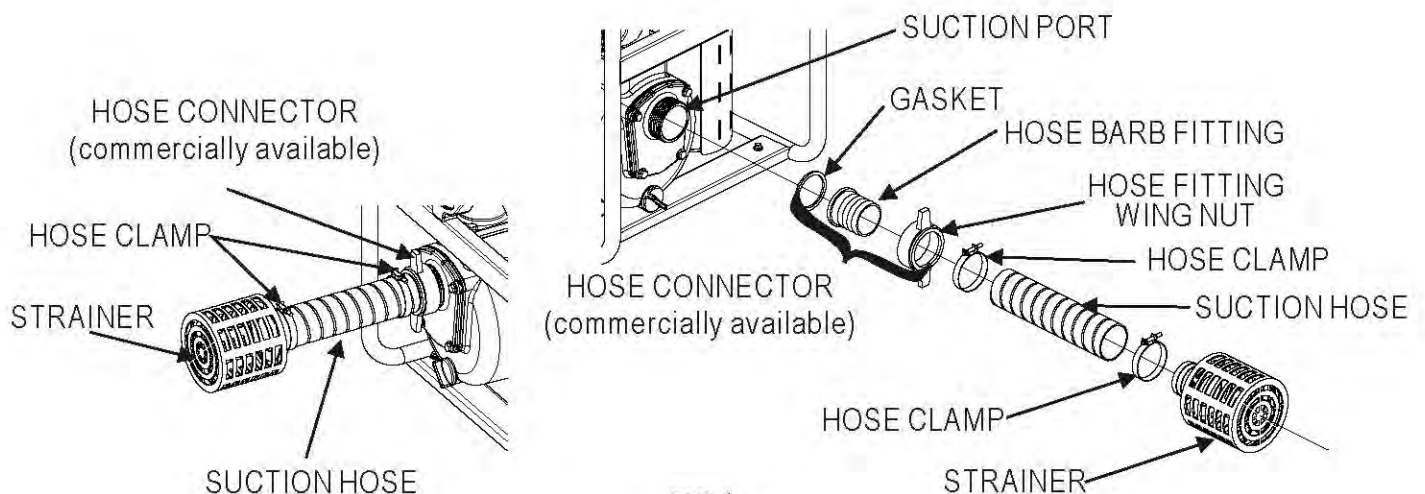

FIG 1
Suction Hose Installation (See Fig 1)
- At the pump's Suction Port connect the gasket, hose barb fitting, hose wing nut, hose clamp, and suction hose as shown in figure 1.
- Connect a hose clamp and the Zinc plated Steel Strainer at the opposite end of the hose as shown in figure 1. The strainer helps prevent debris from clogging the pump.